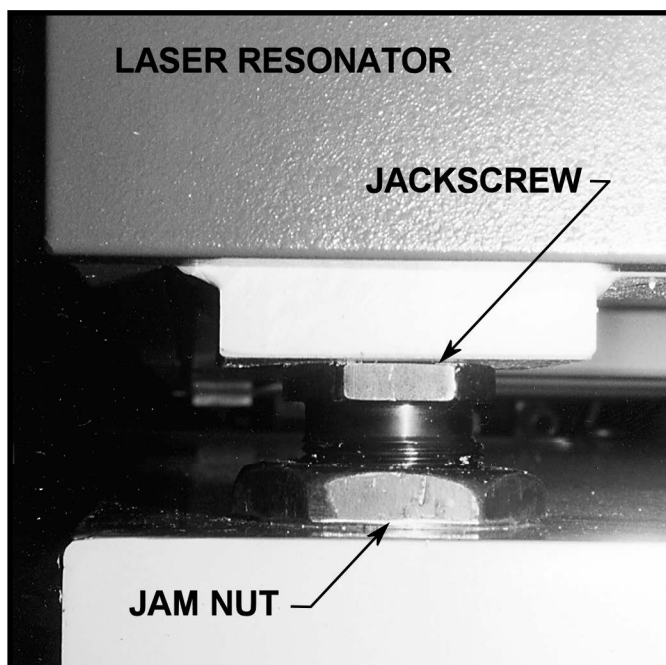

FIGURE 9-15 Laser resonator adjustment
The alignment procedure begins by removing the first external mirror and checking the position of the beam in the mirror mount. The vertical position is adjusted by raising or lowering the resonator cabinet (see Figure 9-15). The horizontal position is adjusted by moving the base of the collimator support.
To adjust the laser resonator vertically, use the four jackscrews (one at each corner). See Figure 9-15. Each jackscrew is locked in place by a large jam nut. Loosen each mounting bolt and jam nut several turns to allow sufficient room for vertical adjustment. Do not retighten the bolts or jam nuts until Step 7.
- Shut down the machine and turn off the main disconnect as described in SECTION 7 – “START-UP AND SHUTDOWN”. Retighten the mounting bolts and jam nuts locking the jackscrews (Figure 9-15). Start the laser and take one more card shot to verify alignment of the laser resonator.
The purpose of this alignment is to steer the laser beam parallel to the X-motion of the machine and to center the beam in the moving X-mirror. See Figure 9-15. Steering is done by adjusting the second collimator mirror. Centering is done by position adjustments of the moving X-mirror in the Y or Z-direction.